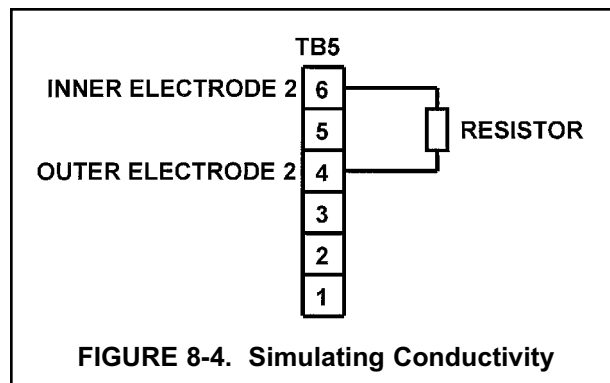

FIGURE 8-4. Simulating Conductivity
B. Connect the standard resistors to TB-5 as shown in Figure 8-4.